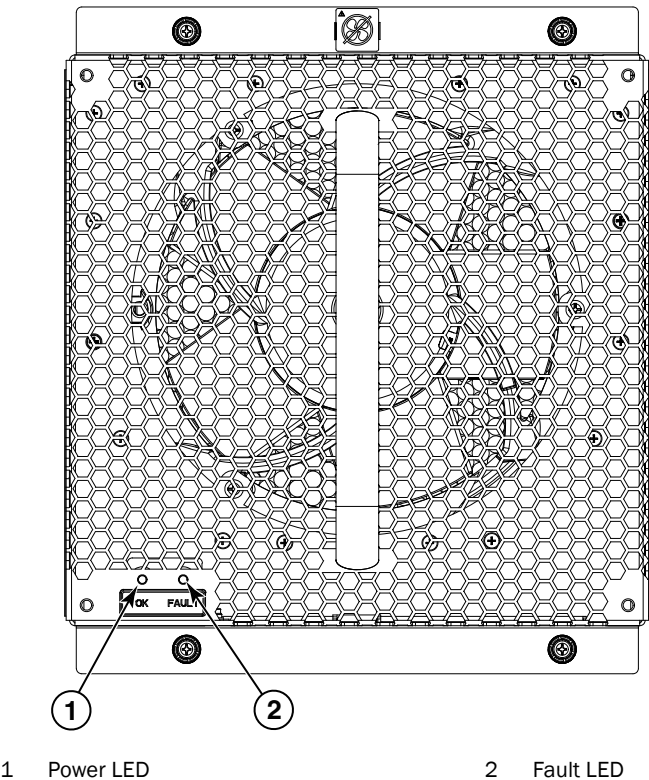

FIGURE 18 Fan module
1. Check the LED indicators on the fan (refer to Figure 18). The LED patterns may temporarily change during POST and other diagnostic tests; for information about how to interpret the LED patterns, refer to Table 16. The Brocade VDX 8770-4 has up to two fans. Be sure to check each module.
Figure 18 shows a fan module.